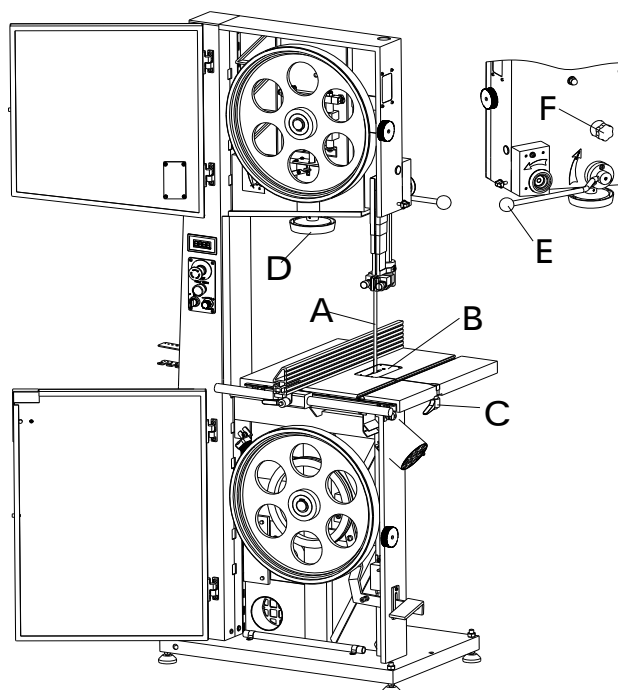

Fig. 11
1. Rotate quickly tension handle(E) to the lock position, and turn the saw blade tension handle (D) to adjust Tension.
4. Adjust the trajectory of saw blade, to ensure the saw blade always in the center of the pulley, and the most in the wheel high location. As shown in figure 11.